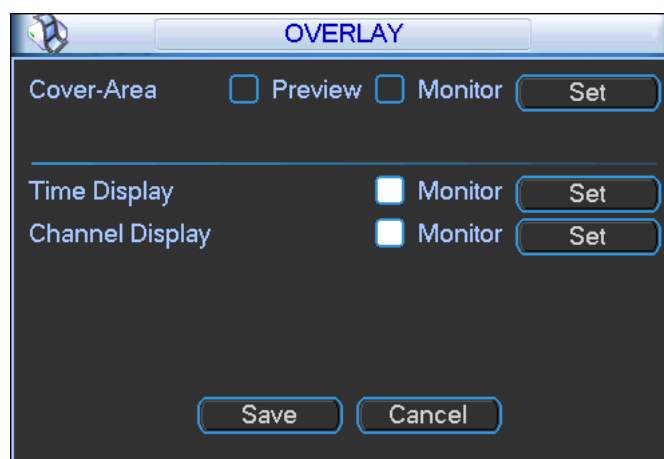

Figure 4-4
- Overlay: Click overlay button, you can see an interface is shown in Figure 4-4.